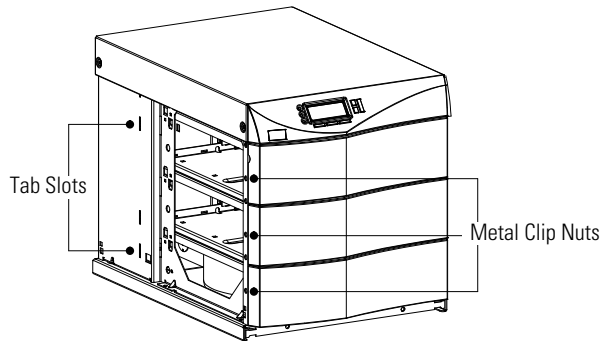

Figure 9. Metal Clip Nut and Tab Slot Locations
4. Install three metal clip nuts onto each side flange (six clip nuts on 6-slot cabinets) along the front of the UPS cabinet (see Figure 9).
Insert the two offset tabs on the rear edge of the ear into the matching tab slots on the cabinet side frame (see Figure 9). Pivot the ear forward until it is flush against the UPS cabinet side frame. Using three $1/4$ -20 \times $1/2$ " Phillips-head bolts, screw the bolts into the metal clip nuts installed in Step 4.